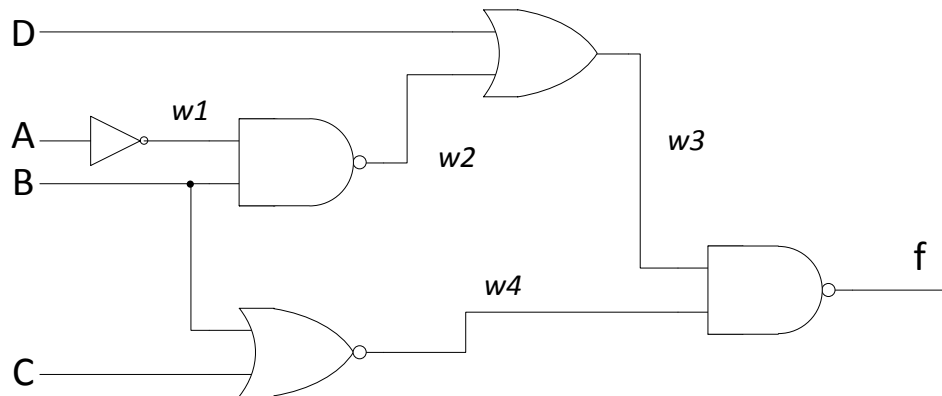

Figure 1. Logic circuit to consider for the first section¹
Overview of today's session: This lab is divided into three sections. The first one is a guided tour where you will capture the logic circuit shown in Figure 1 using Quartus II and then simulate the circuit using the ModelSim logic simulator. The second section is do-it-yourself where you will capture and simulate a full-adder circuit. The third section introduces you to block symbols for saving and reusing your design as a component in other circuits. This will be illustrated by using your full-adder from section two as a component in a ripple-carry adder.
- f. Now click on the **Orthogonal Node Tool** button, and drag the mouse pointer from the output pin of the OR gate to any one of the input pin of the NAND gate, then release. Similarly try to wire your whole circuit (Figure 1) that will finally be like the one shown in Figure 4.